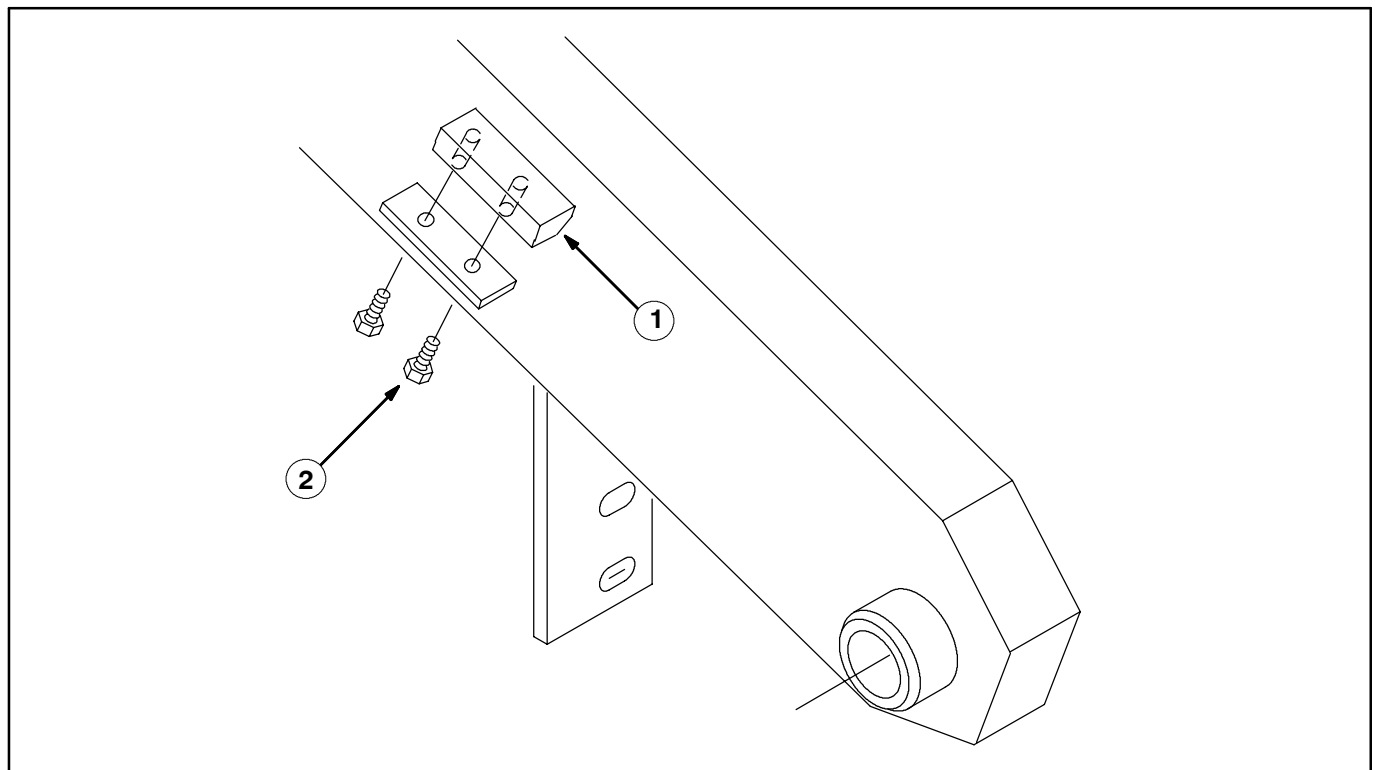

FIG. 3 - Safety Leg Stop Block Installation
3. Mount the support block (1) to the safety leg support with two M8 screws (2). (Refer to FIG. 3)